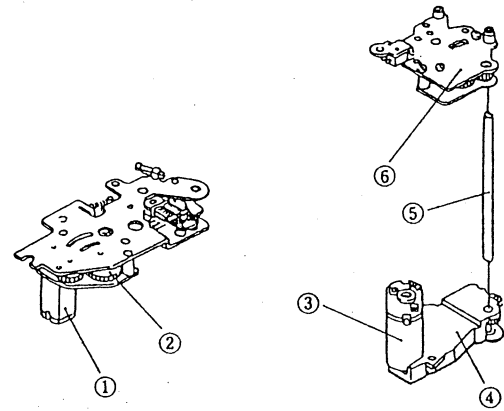

Fig.2 Winding and Rewind Units
(2) Film Winding and Rewind Mechanisms
Fig.2 shows the structure of the Winding and Rewind Mechanisms. For winding, the dedicated high-performance miniature motor ① incorporated in the spool drives the Winding Spool via the Gear Train ② having a proper reduction ratio.